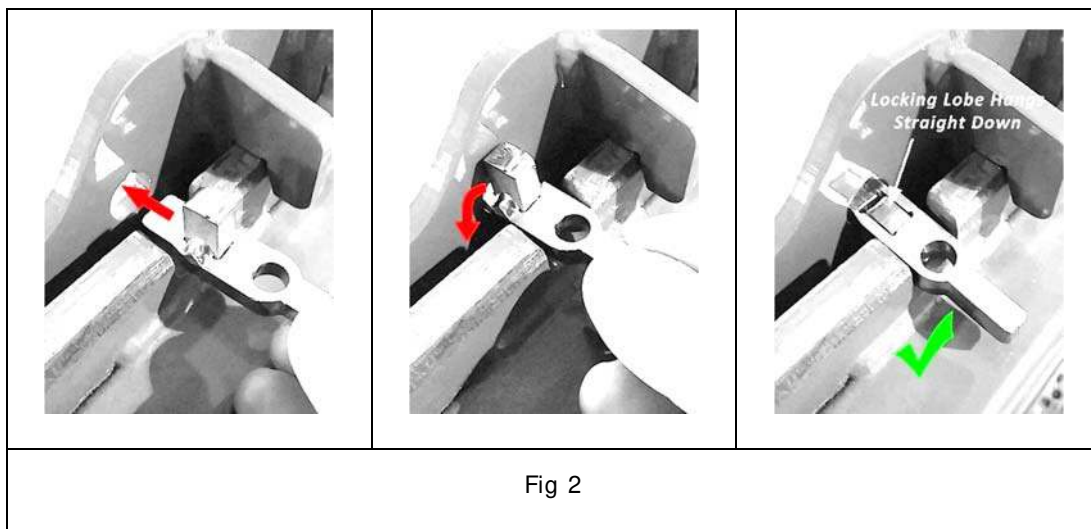

Fig 2
4. Pass the tethered lock keys thru the detents on the fork frame and the holes in the Adapter Plate as shown in Fig 2 below. Locking lobe hangs straight down. Be sure to install both keys.